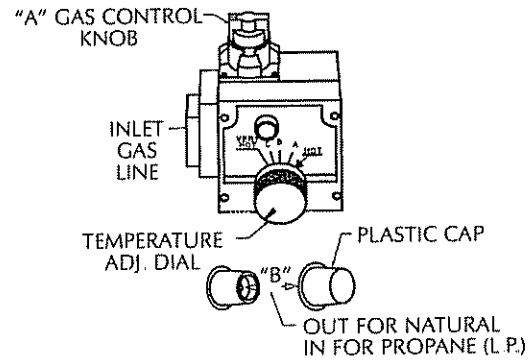
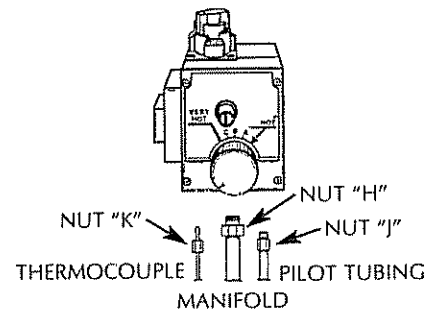
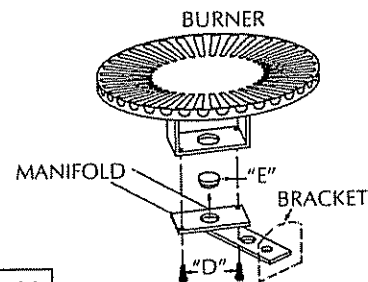
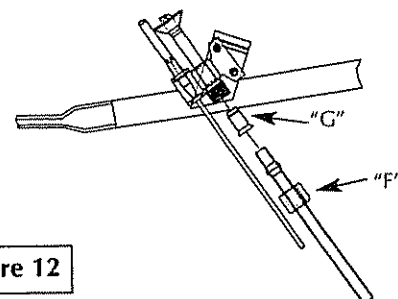

Figure 9
Figure 10a
Figure 11
Figure 12
- Step 1. Turn gas control knob "A" to "PILOT". Depress and turn "OFF". (See Figure 9, page 20).
- Step 3. Remove burner assembly from water heater control by first removing 6 screws holding inner door to heater, then loosening $\frac{3}{4}$ " nut "H" holding burner assembly to control. (See Figures 10a and 10b, page 20). Loosen pilot tube nut "J" and thermocouple nut "K" at control.
- Step 4. Remove screws "D" disengaging manifold from burner. (See Figure 11, page 20)
- Step 5. Remove orifice "E" (See Figure 11, page 20) using $\frac{3}{8}$ " wrench. Install orifice marked "L.P." found in the bag into manifold. Tighten securely. Secure burner to manifold with screws "D".
- Step 6. Loosen pilot tube nut "F" (See Figure 12, page 20). Remove orifice "G" and replace with red colored orifice found in bag. Reinstall nut "F" and tighten securely.
- Step 7. Make sure all connections are tightened securely, and reinstall burner assembly into water heater. Position end of the manifold inside bracket as shown in Figure 11 on page 20. Reinstall manifold into control and tighten $\frac{3}{4}$ inch nut ("H") securely. Recheck to see that end of manifold is still inside bracket as shown in Figure 11 on page 20. Reinstall pilot tubing and thermocouple into control. (See Figure 10a, page 20). Reinstall inner door using the 6 screws removed in step 3.
- Step 8. Place screwdriver in slot "B". (See Figure 9, page 20). Depress and turn counter-clockwise (↺) to stop. Control screw must be in "IN" position for propane (L.P.) gas and in "OUT" position for natural gas. STOP! Read label "For Your Safety" located on your water heater.
- Step 11. Wait five (5) minutes to clear out any gas. If you then smell gas, STOP! Follow "B" in the safety information on "For Your Safety" label. If you don't smell gas, go to the next step.
- Step 12. Open pilot door. The pilot is located in front of the burner. (See Figure 12, page 20)
- Step 14. Push in control knob all the way and hold down. Immediately light the pilot through pilot light hole with a match held by a match holder wire. Continue to hold control knob in for about one (1) minute after the pilot is lit. Release knob and it will pop back up. Pilot should remain lit. If it goes out, repeat steps 9 through 12.
- Step 15. Check for gas leaks with only pilot flame burning using a soapy water solution, not a match or open flame. Check for gas leaks at fittings "F" and "G" (See Figure 12, page 20) and at fitting "J" (See Figure 10a, page 20).
- Step 16. Make sure temperature adjustment dial is turned clockwise (↻) in its lowest position (See Figure 9, page 20).
- Step 19. With a soapy water solution, not a match or open flame, check for gas leaks at gas connection "H". (See Figure 10a, page 20). If gas leak occurs, turn off immediately by shutting off gas cock at inlet to